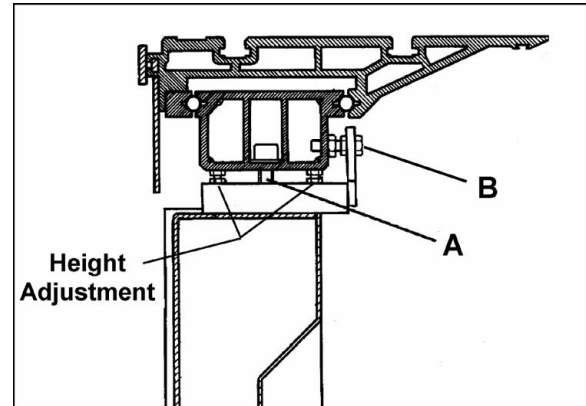

Figure 42
1. At the end you have decided to move, loosen the hex nut (A, Figure 42) holding the sliding table to the frame.
NOTE: The sliding table should be approximately 0.3 mm higher than the fixed cast iron table (thickness of a piece of paper). This is pre-set at the factory, but if adjustment should ever be needed, use the four height adjustment bolts (Figure 42) on each end of the table.